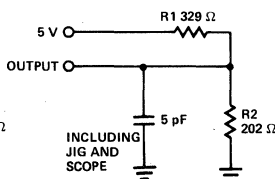

Figure 1b
- t_{HZCE} and t_{HZWE} are tested with C_L = 5 pF as in Figure 1b. Transition is measured ± 500 mV from steady state voltage.